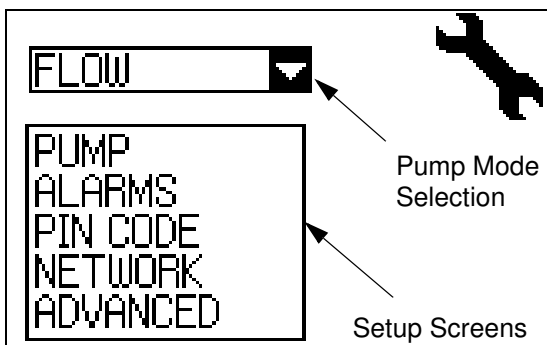

FIG. 6 Configuration screen
1. On the Configuration screen (FIG. 6), verify FLOW is selected in the pump mode selection box.
1. On the Configuration screen (see FIG. 6), verify TIME is selected in the mode selection box.
1. On the Configuration screen (see FIG. 6), verify CYCLES is selected in the mode selection box.
1. On the Configuration screen (see FIG. 6), select ALARMS from the list of setup screens, and press Enter to display the Alarms Setup screen.